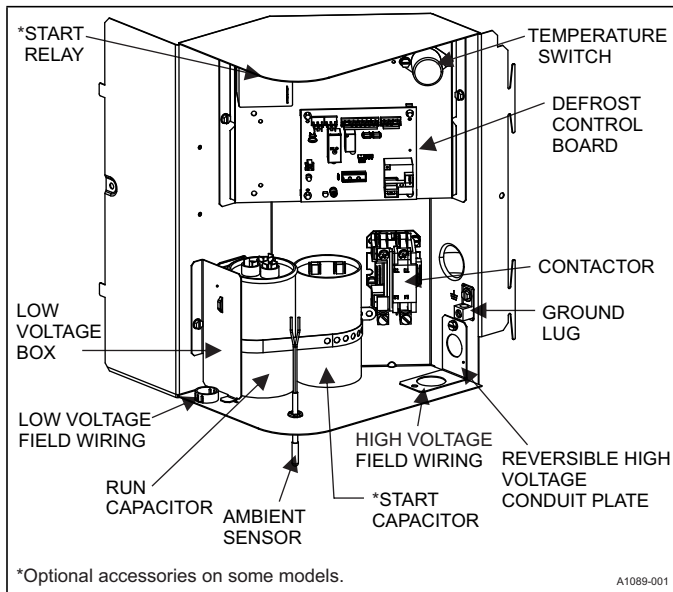
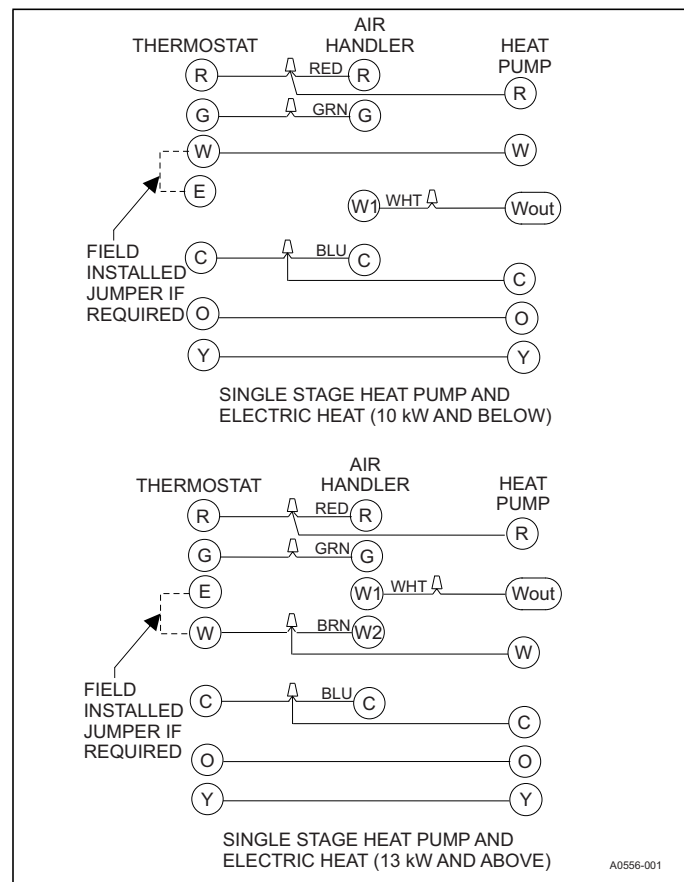

FIGURE 10: Outdoor Unit Control Box (208/230V Single Phase)
FIGURE 11: Typical Field Wiring (Air Handler / Electrical Heat) (Single and Three-Phase)
4. Route wires from disconnect through power wiring exit provided and into the unit control box as shown in Figure 10.
1. Route low voltage wiring into bottom of control box as shown in Figure 10. Make low voltage wiring connections inside the low voltage box per Figure 11.